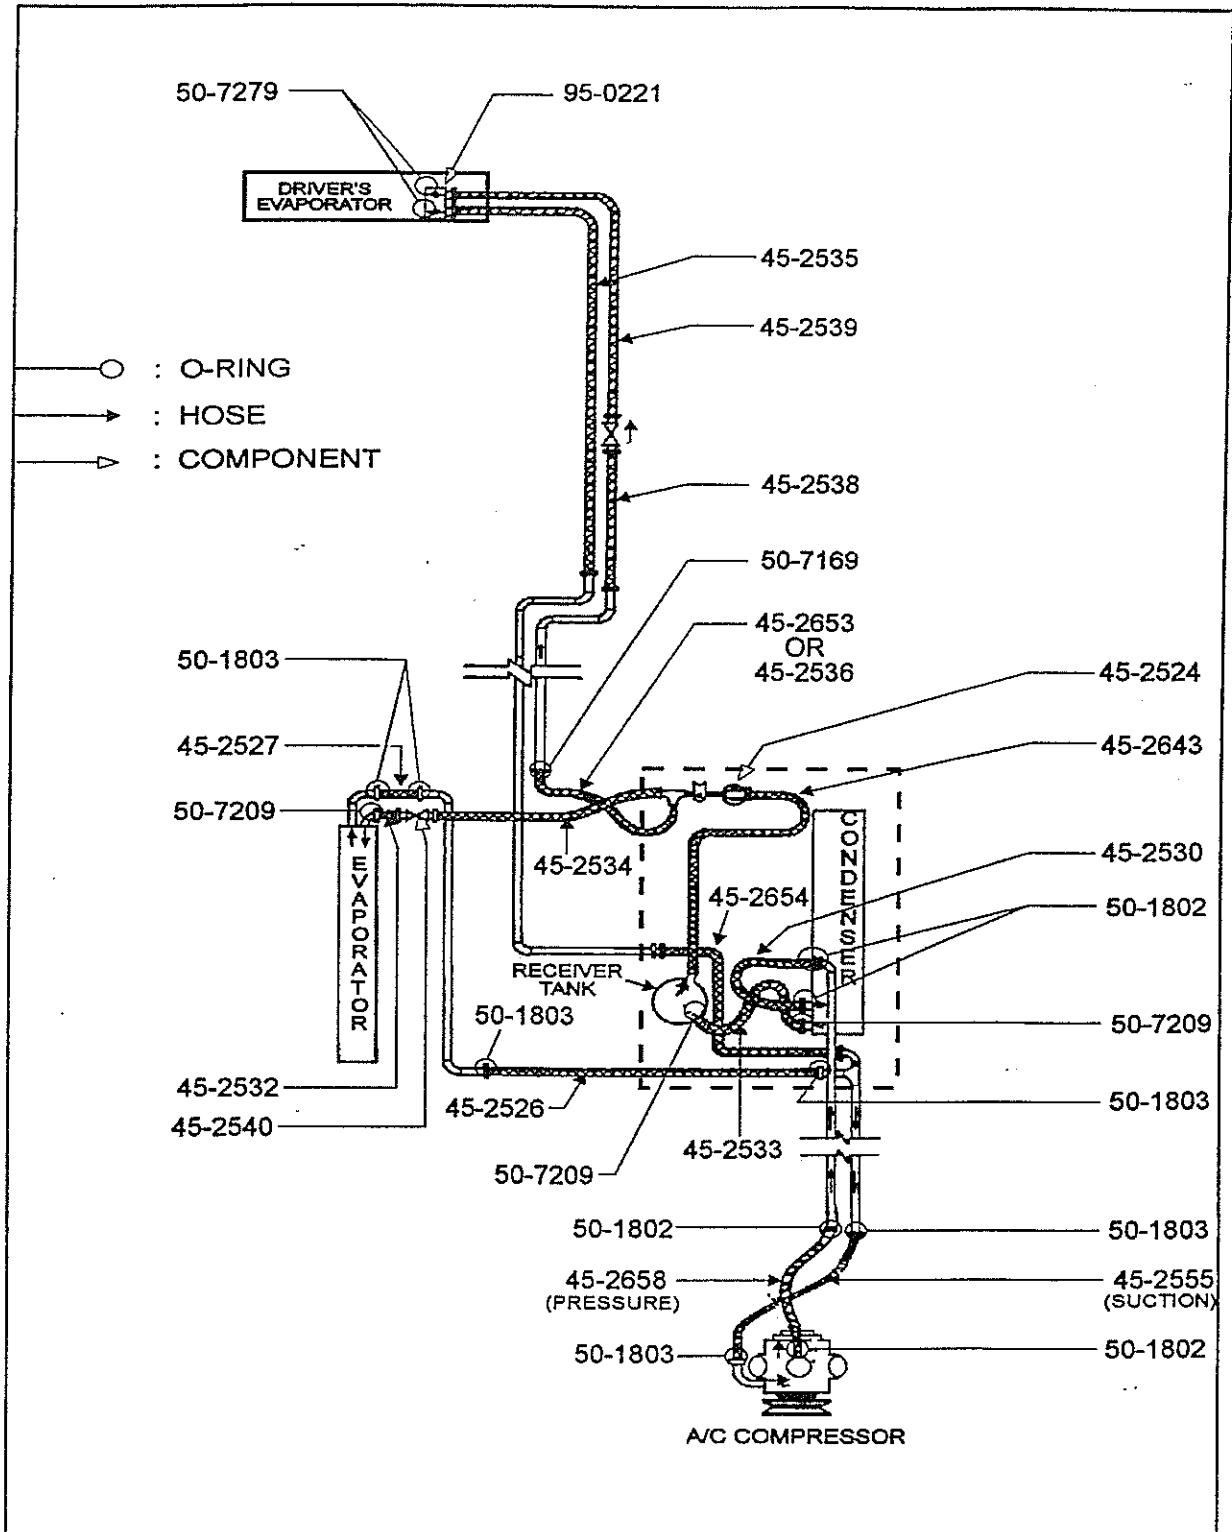

Fig. 7
8. Replace the existing compressor suction and discharge hoses with new hoses from the kit. Replace the O-rings at the hose connections with the new O-rings from the kit. Refer to figure 7 for hose and O-ring identification and location.
7. Replace Evaporator Outlet hose. Replace the O-rings with the new O-rings from the kit. Refer to figure 7 for hose and O-ring identification and location.
1. Replace the hoses in the condenser compartment. Replace the O-rings at the hose connections with the new O-rings from the kit. Refer to figure 7 for hose and O-ring identification and location.
6. Disconnect Evaporator Inlet and Outlet hoses from driver's expansion valve, then remove and discard expansion valve. Install new expansion valve #95-0221. Replace both O-rings. Refer to figure 7 for hose and O-ring identification.